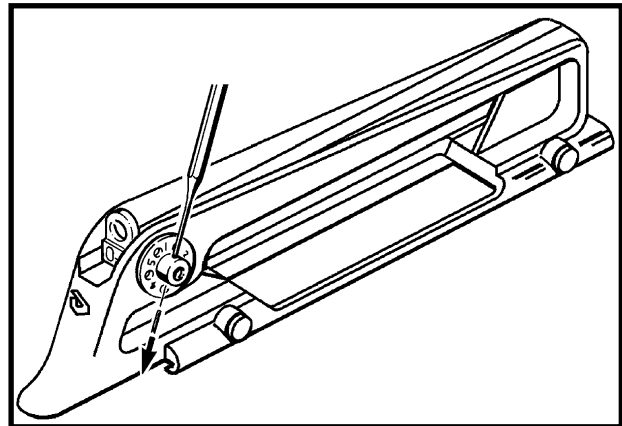

Figure 3-2-65 Removing the Windage Drum Pin
- a. Carefully drive out the windage drum pin with a suitable punch. See Figure 3-2-65;